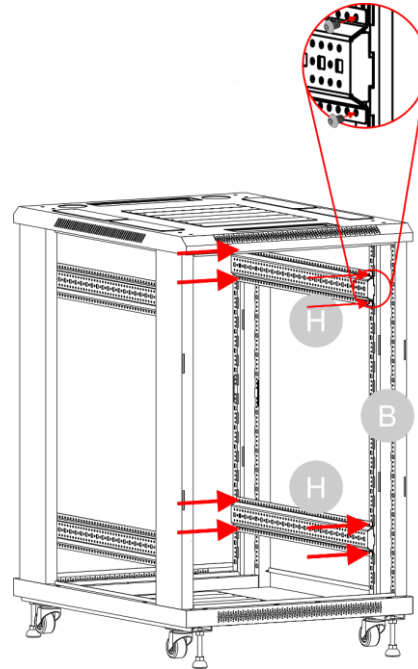

Fig. 30
- 14) Attach the **horizontal brackets (H)** to the 2 **frames (B)** with 4 x 2 **screws (O)** on the 4 top corners of the cabinet and 4 x 2 **screws (O)** on the bottom corners of the cabinet, as shown in Fig. 30.